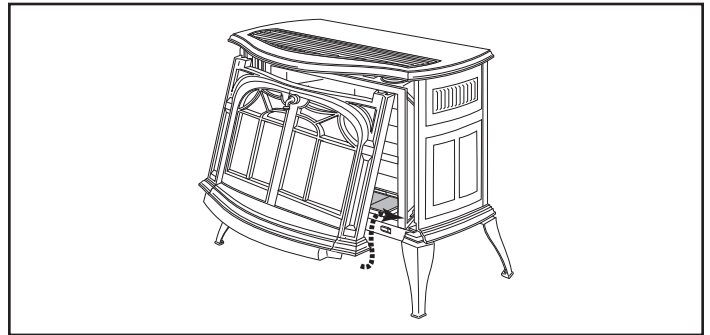

Figure 20 - Replace the front panel.
2. Replace the stove front by grasping it by the left and right edges. Lift it so that tabs on the back side of the top corners engage notches at the top forward corners of the stove sides. Then gently swing the bottom of the front panel to a vertical position, and lower it till prongs on its bottom left and right corners engage with notches cast into the tops of the forward legs. (Figure 20) Test that the front is installed securely by grasping two of panel's vertical bars, and pulling the panel toward yourself. When the panel is in place properly you should not be able to pull the bottom of the front toward yourself without also lifting it.